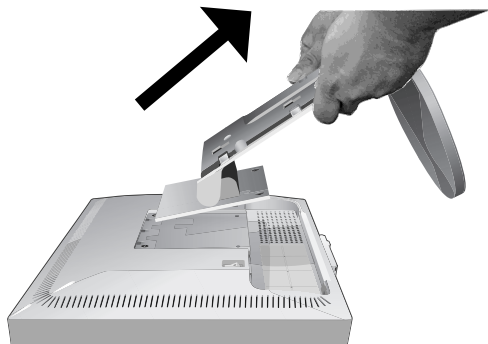

Figure M.4
5. Lift up the stand to unlatch the upper hooks and remove the stand (**Figure M.4**).